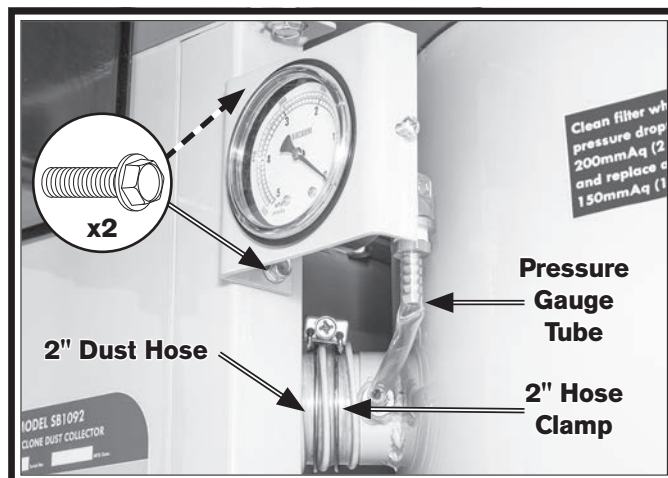

Figure 16. Pressure gauge assembly and 2" dust hose installed.
7. Install pressure gauge assembly (see **Figure 16**) on side panel with (2) 1/4"-20 x 1/2" flange bolts.
8. Connect pressure gauge tube to hose ports on housing assembly and pressure gauge (see **Figure 16**).
9. Attach 2" hose(s) to hose port(s) on housing assembly with 2" hose clamp(s) (see **Figure 16**).